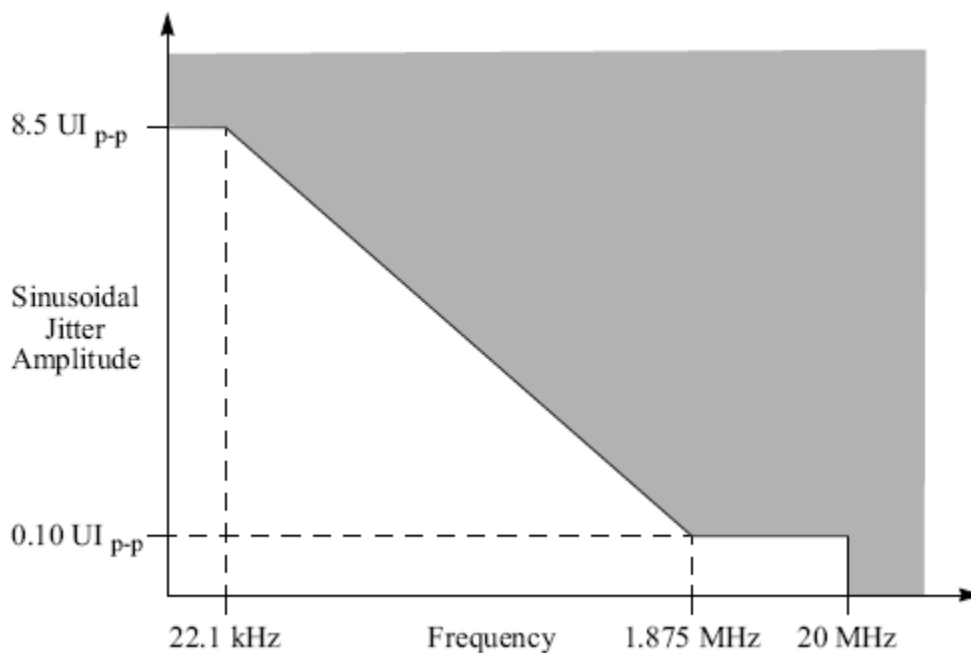

Figure 16 Single Frequency Sinusoidal Jitter Limits
1. Total jitter is composed of three components, deterministic jitter, random jitter and single frequency sinusoidal jitter. The sinusoidal jitter may have any amplitude and frequency in the unshaded region of Figure 16. The sinusoidal jitter component is included to ensure margin for low frequency jitter, wander, noise, crosstalk and other variable system effects.